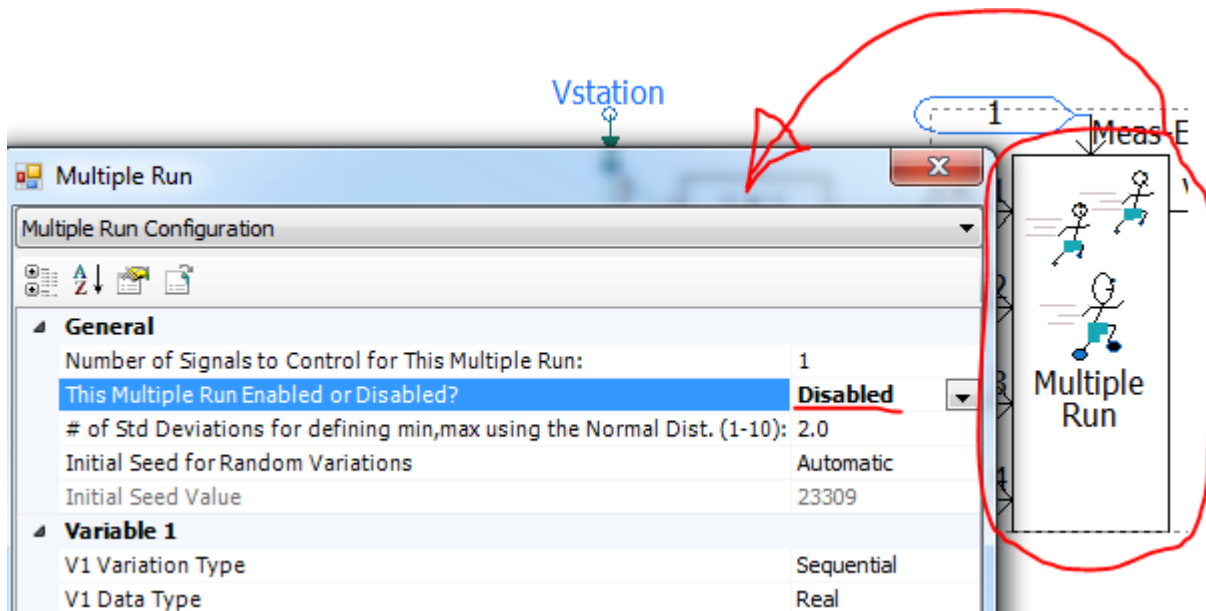

Figure 6: Disabling the Multiple-run Component
1. Disable the Multiple-run Component (Figure 6).